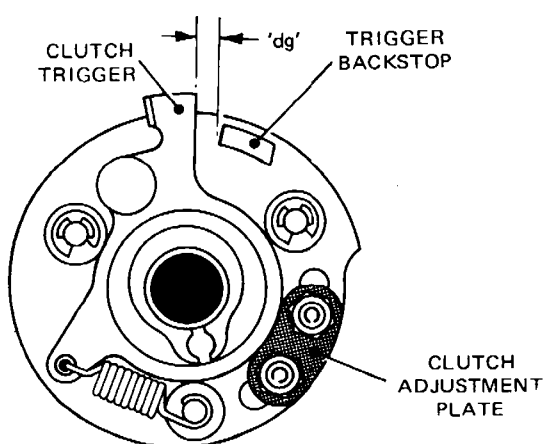

Fig. 4.121 TRANSMITTER CLUTCH
- 130.1 With the machine in the rest condition, release the clutch detent and check that there is a clearance of 0.045–0.060 inch (dimension 'dg' of Fig. 4.121) between the clutch trigger and the backstop on the clutch body.